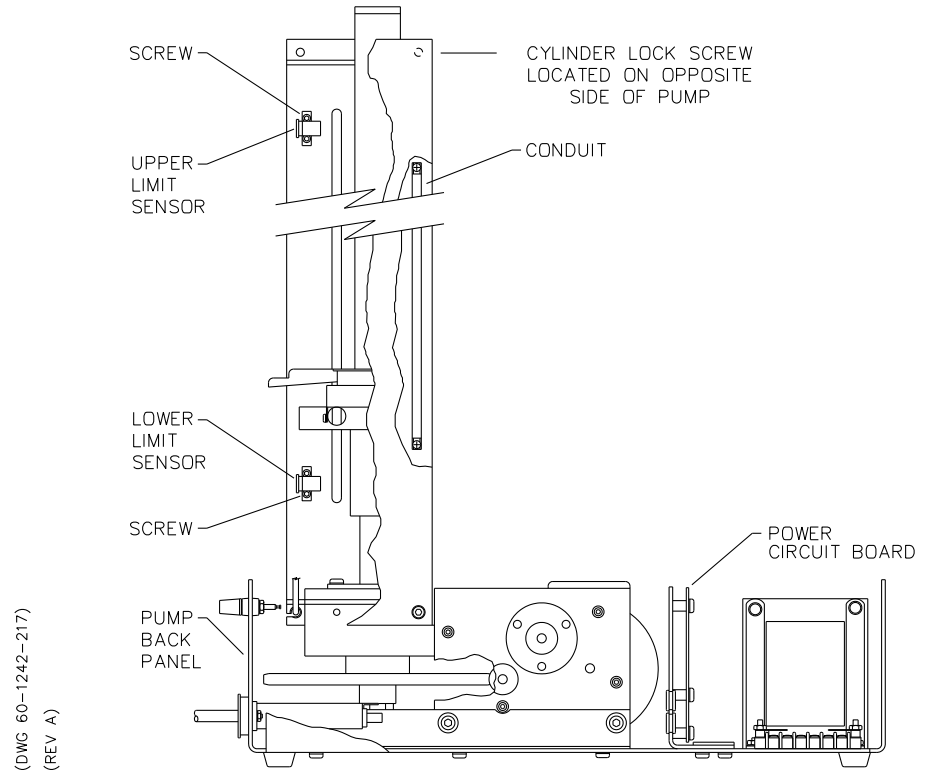

Figure 9-38 Limit sensor replacement
5. The limit sensor assembly includes two limit sensors, the wire harness and connector, and a conduit which protects the wires running between the sensors, Figure 9-38.